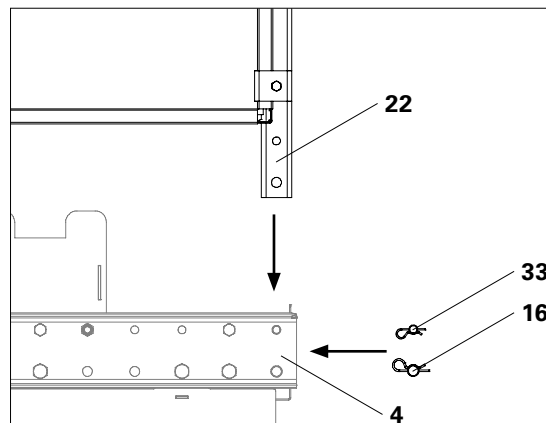

Fig. B4.11a
2. Insert Guardrail Post RCS-MP (22) into the Climbing Rail RCS 998 (4).
3. Bolt on the Guardrail Post RCS-MP (22) using 1x Fitting Pin 21 x 120 (33) and 1x Fitting Pin 26 x 120 (16) and secure with Cotter Pin 4/1 (34) and Cotter Pin 5/1 (17) respectively. (Fig. B4.11a)